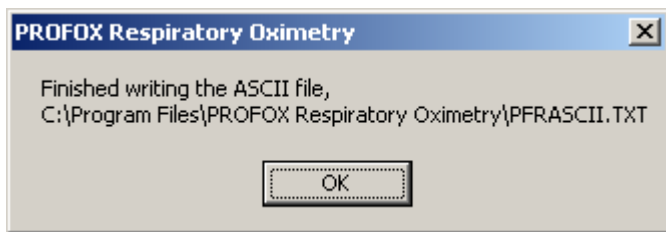

Figure 38. Profox: Finished Writing ASCII File
2. Click *OK* to proceed. The message seen in Figure 38. Profox: Finished Writing ASCII File, below, will be displayed when the process is complete.